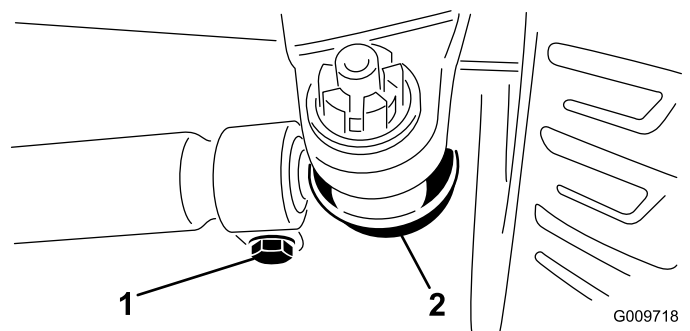

Figure 48
2. To adjust, remove the cotter pin and nut from either tie-rod ball joint (Figure 48).
4. Loosen the clamps at both ends of the tie rods (Figure 48).